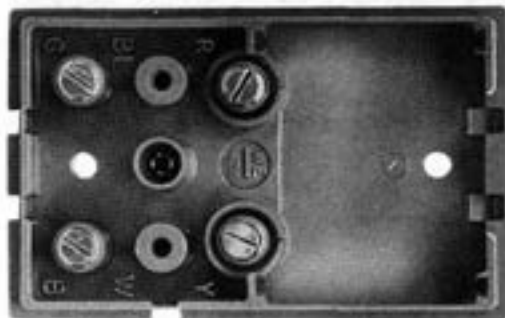

Fig. 2—42B4 Connecting Block
B. #42B Connecting Block (Fig. 2 and 3)